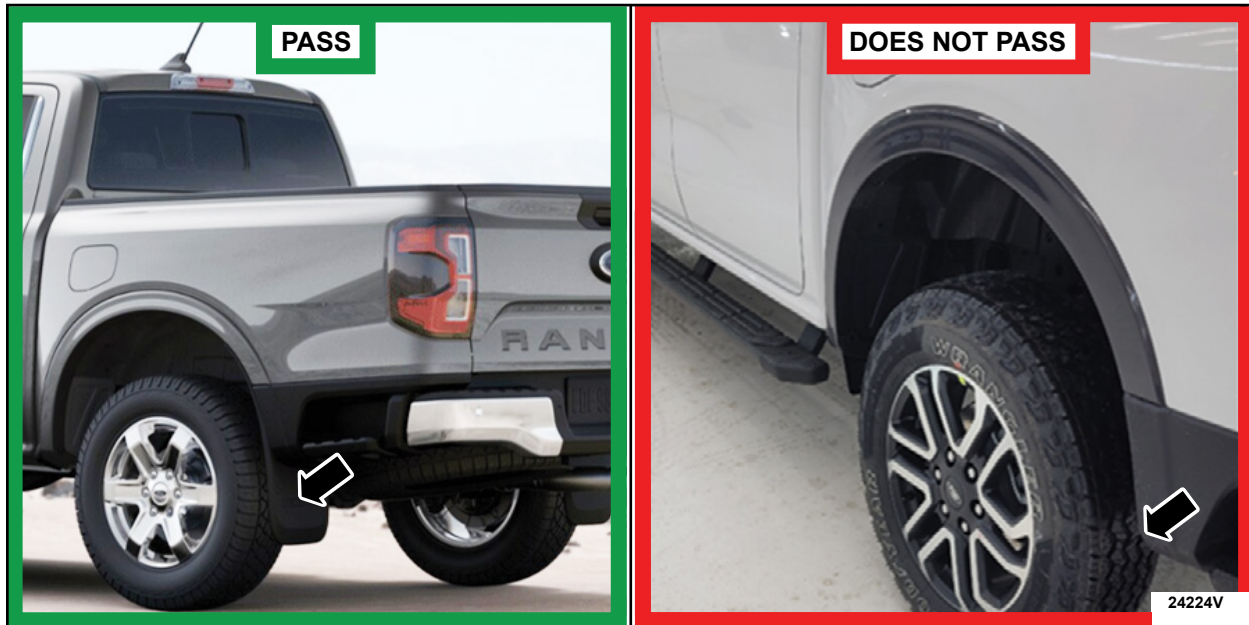

FIGURE 9
15. Verify the mud flaps are present on units that are supposed to have them. See Figure 9.